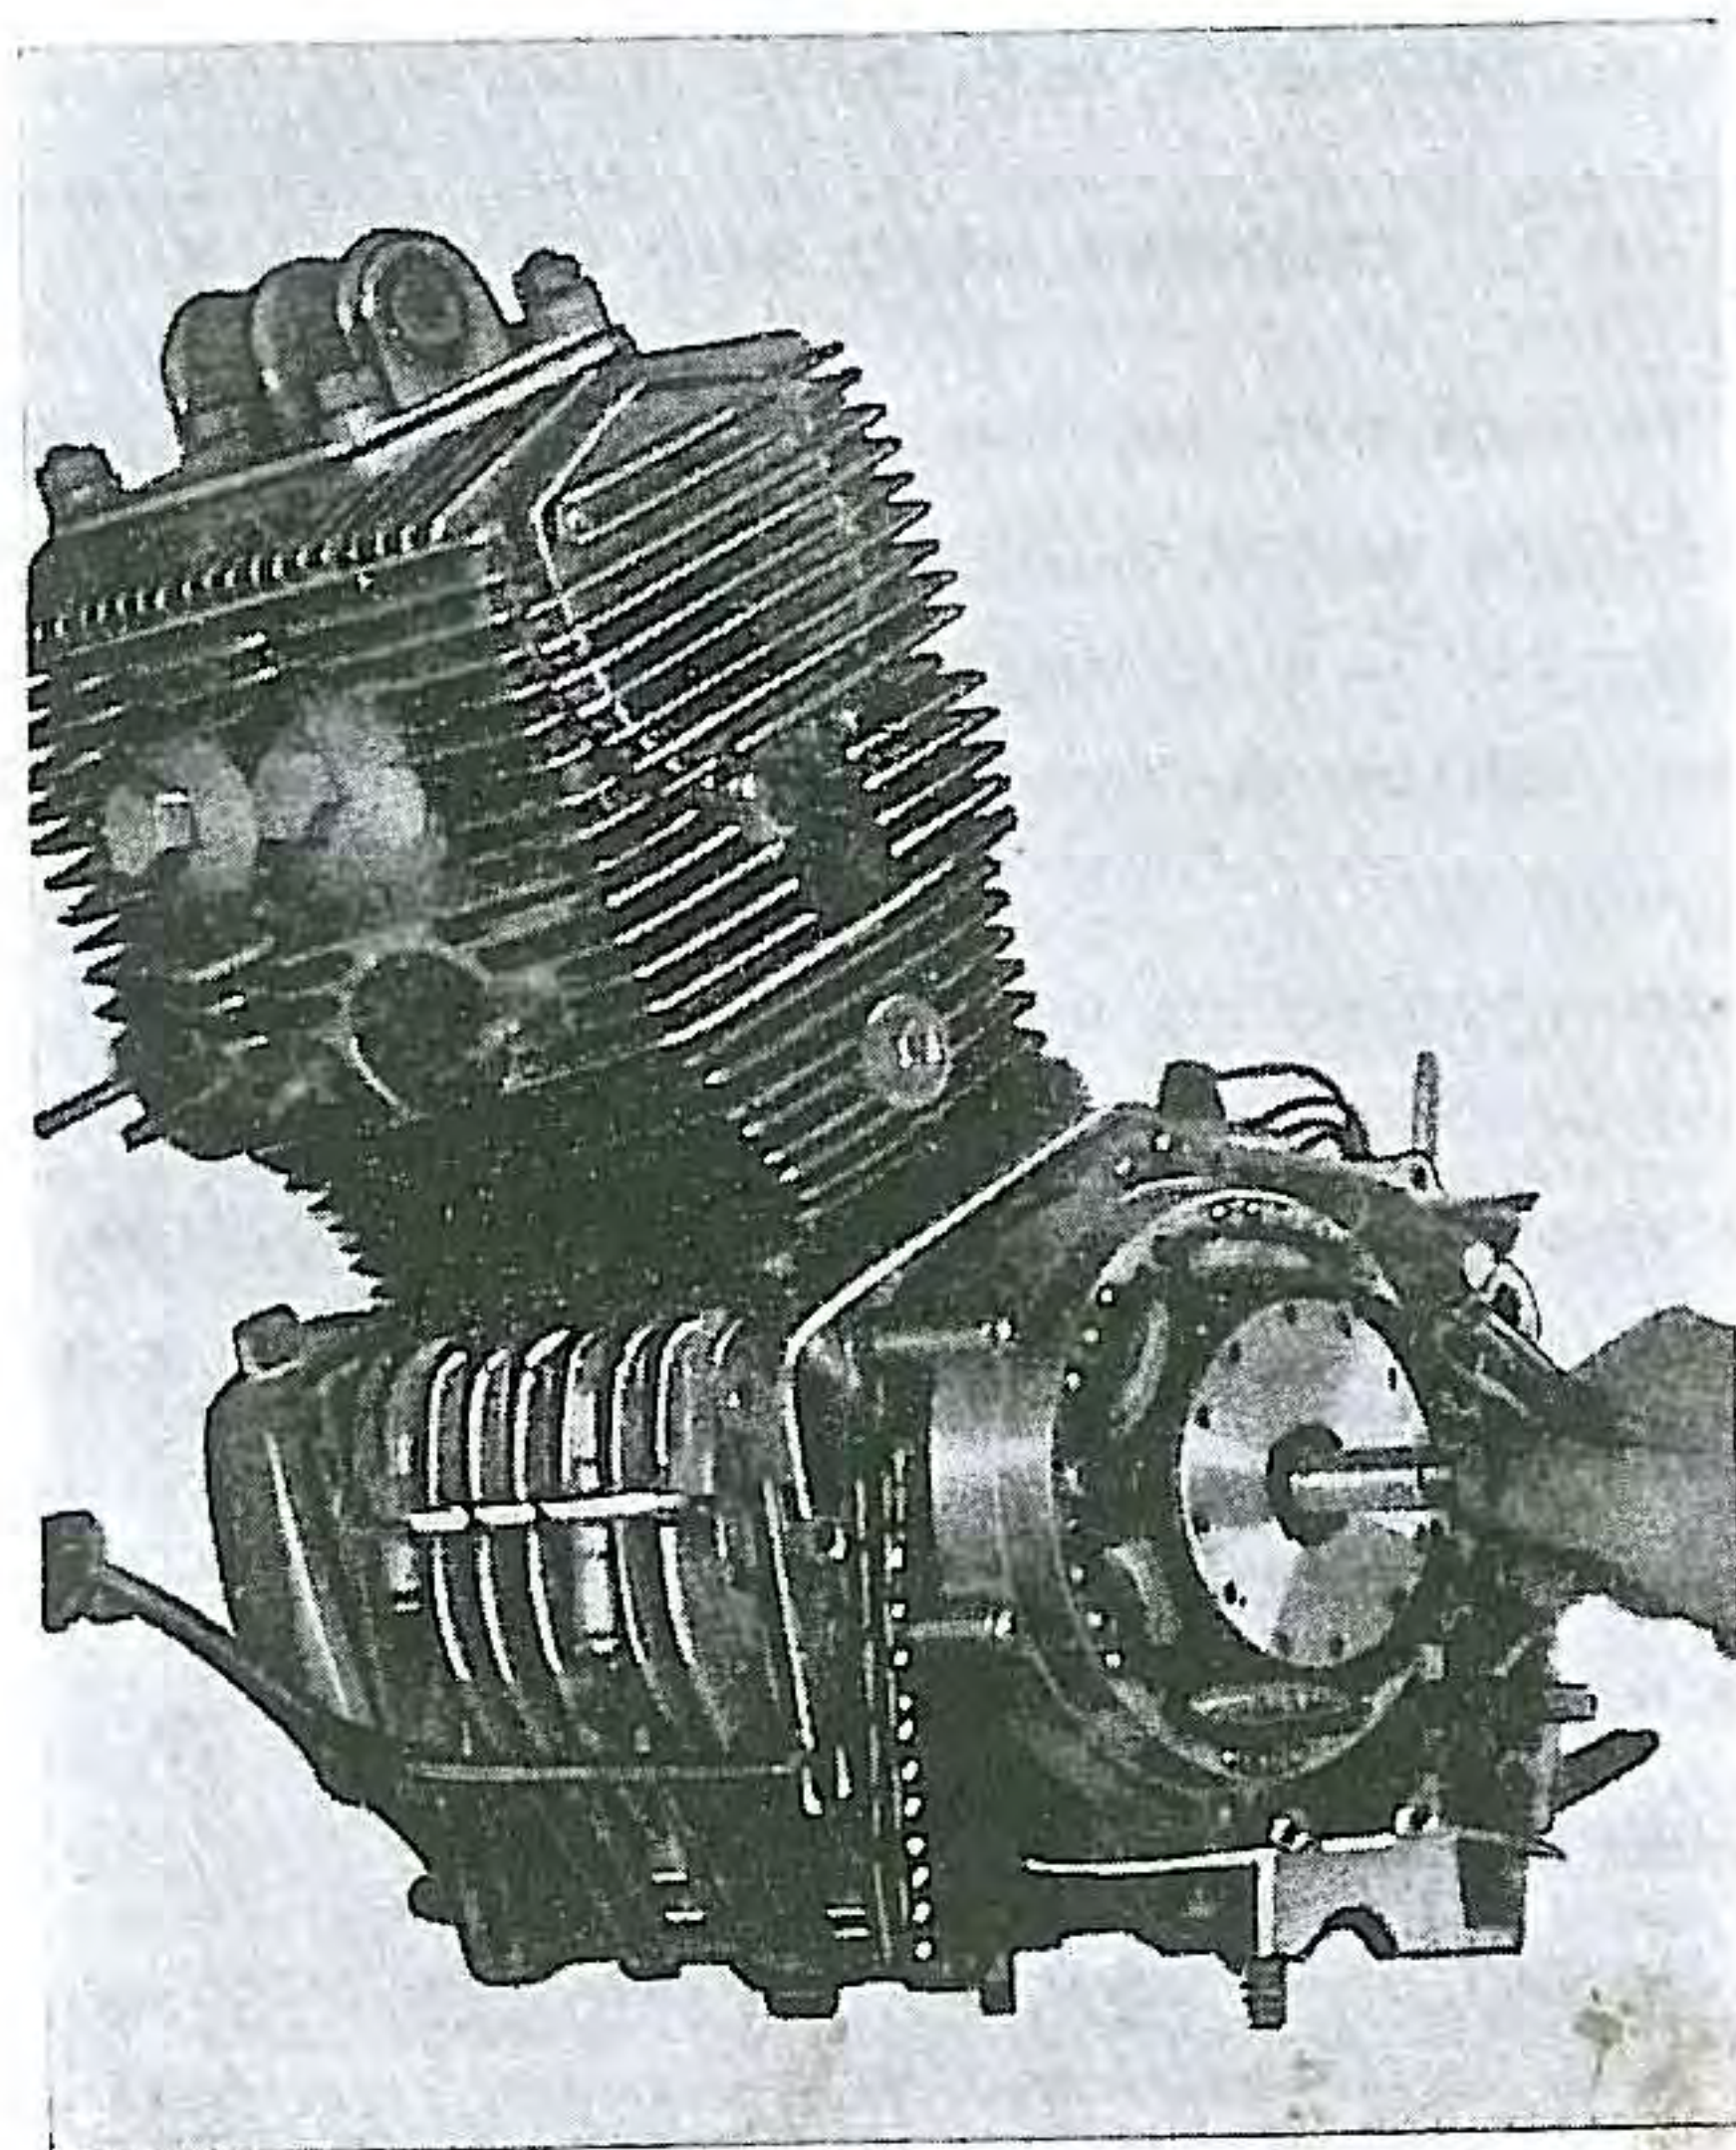

Fig. 23. Removing A.C. dynamo rotor with extractor
- (3) Remove A. C. dynamo rotor with the extractor as shown in (Fig. 23.) After the rotor has been removed, remove the woodruff key wedged into the crankshaft.